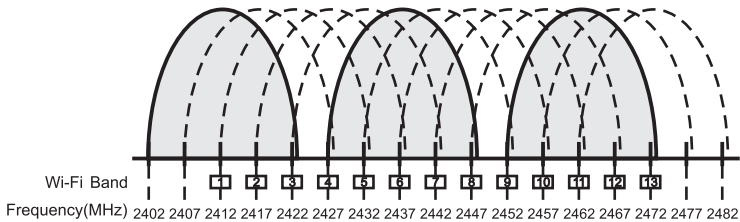

Fig. 7
- (1) Position the MA-100DG | MA-100SG at least 5-meter away from WiFi, Bluetooth or other 2.4 GHz transmitting devices.
- (2) Line-of-sight between the transmitter and MA-100DG | MA-100SG provides the ideal reception range.
- (3) User can scan environment for WiFi devices with smartphone app, normally WiFi channel selections are 1, 6, 11.
- (4) Wi-Fi Channel Distribution, Fig. 7: